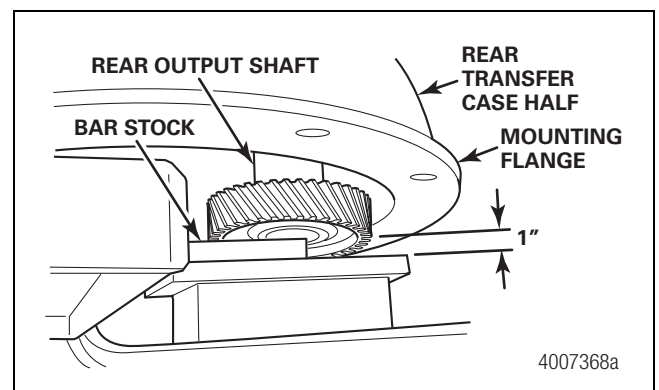

Figure 6.17
2. Use bar stock or other material to support the rear output shaft underneath the rear transfer case half. Ensure the bar stock does not rest under the transfer case mounting flange, but only supports the gear and shaft assembly. Figure 6.17.